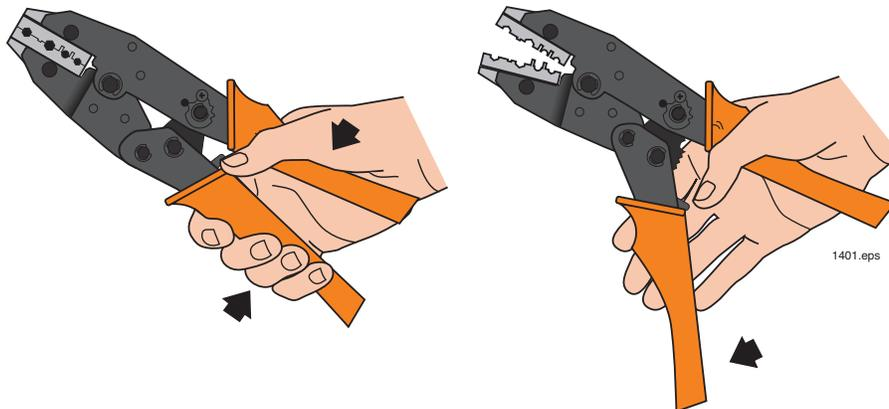

Figure 16. Proper grip of the crimper and tool in its open position.
12. You will use the 0.1 inch hex hole in the jaws of the crimping tool to crimp the ferrule onto the fiber cable. If the crimping tool jaws are not fully open, slowly squeeze the handles until the jaws fully close. Continue squeezing until the latch mechanism releases, allowing the jaws to open completely as shown in Figure 16.